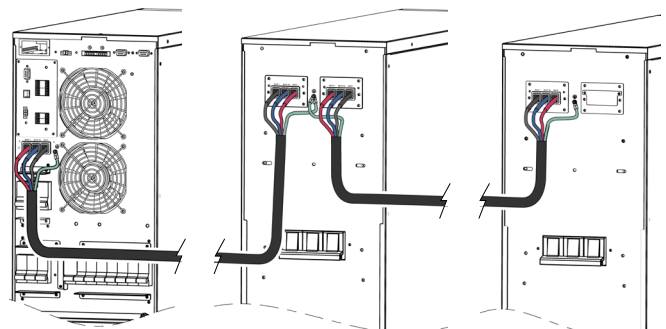
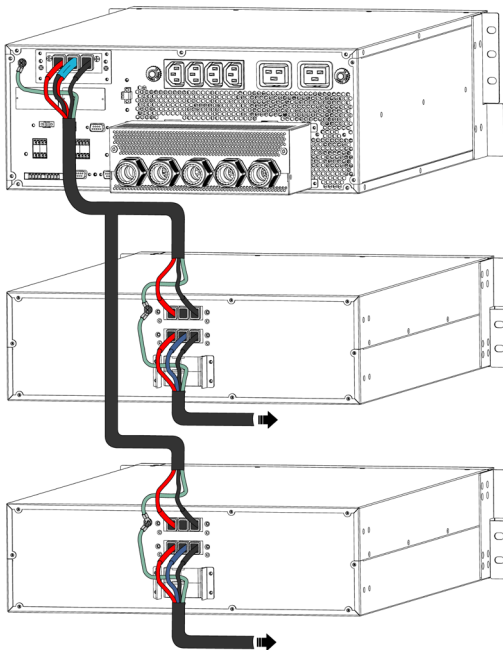

Fig. 42. Connection between the UPS and one or several battery cabinets.
Fig. 44. Connection between the 7.5 and 10 kVA rack version UPS and one or more battery cabinets.
- For extended autonomy where **more than one module or battery cabinet** is supplied, the connection will always be in parallel between them and the unit (see Fig. 42 to Fig. 44). That is, a cable of the same colour, from the UPS negative to the negative of the first battery cabinet and from this to the negative of the second battery cabinet, and so on. Proceed in the same way for the connection of the positive cable, for the middle tap cable (N) and for the green-yellow earth connection.